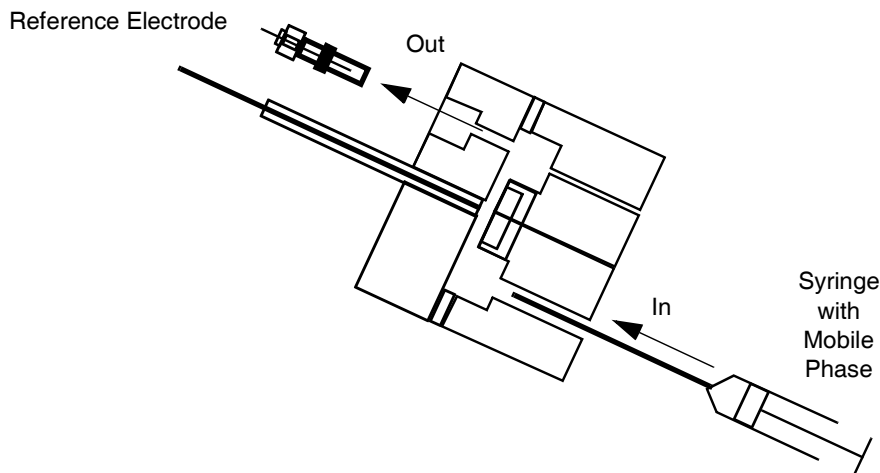

Figure 4-12 Filling the Micro Flow Cell
7. Continue with Section 4.6, Reassembling the Flow Cell. You can use a syringe filled with mobile phase to fill the micro flow cell with mobile phase (Figure 4-12).